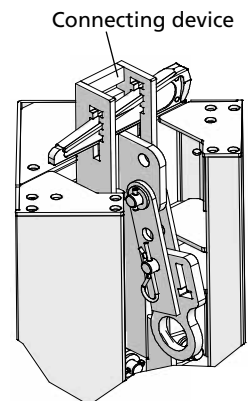

Fig. 32.6 C - Pouring position
1. Insert the integrated wedge into the connecting device (Fig. 32.6 C)
8. Insert the wedge again into the connecting device (Fig. 32.6 C).